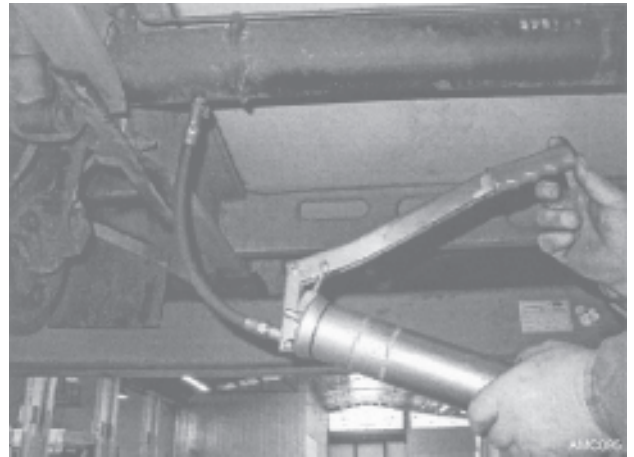

Fig. 14
3. Insert grease from the hand lever grease gun using 5 - 7 strokes for each grease nipple (Fig 14). An adequate quantity of grease has been inserted when resistance is felt.